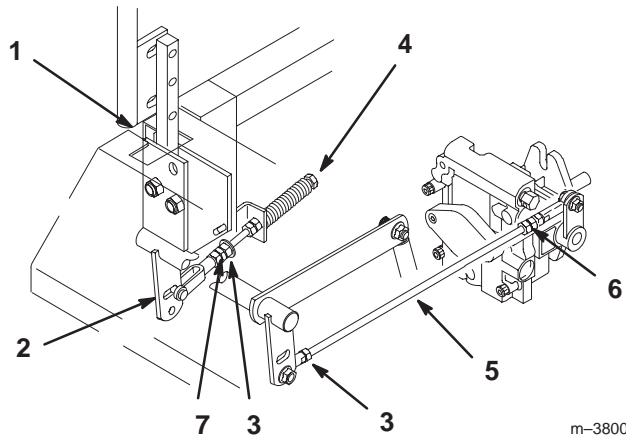

Figure 53
2. Begin with either the left or right motion control lever. Move lever to the neutral (but not locked) position and pull lever back until the clevis pin (on arm below pivot shaft) contacts the end of the slot (just beginning to put pressure on spring) (Fig. 53).
3. Check where lever is relative to notch in console (should be centered allowing lever to pivot outward to the neutral lock position) (Fig. 53).
4. Loosen locknut at ball joint on pump control rod (Fig. 53).
6. Adjust pump rod length by rotating double nuts on rod, in the appropriate direction, until wheel is still or slightly creeps in reverse (Fig. 53).